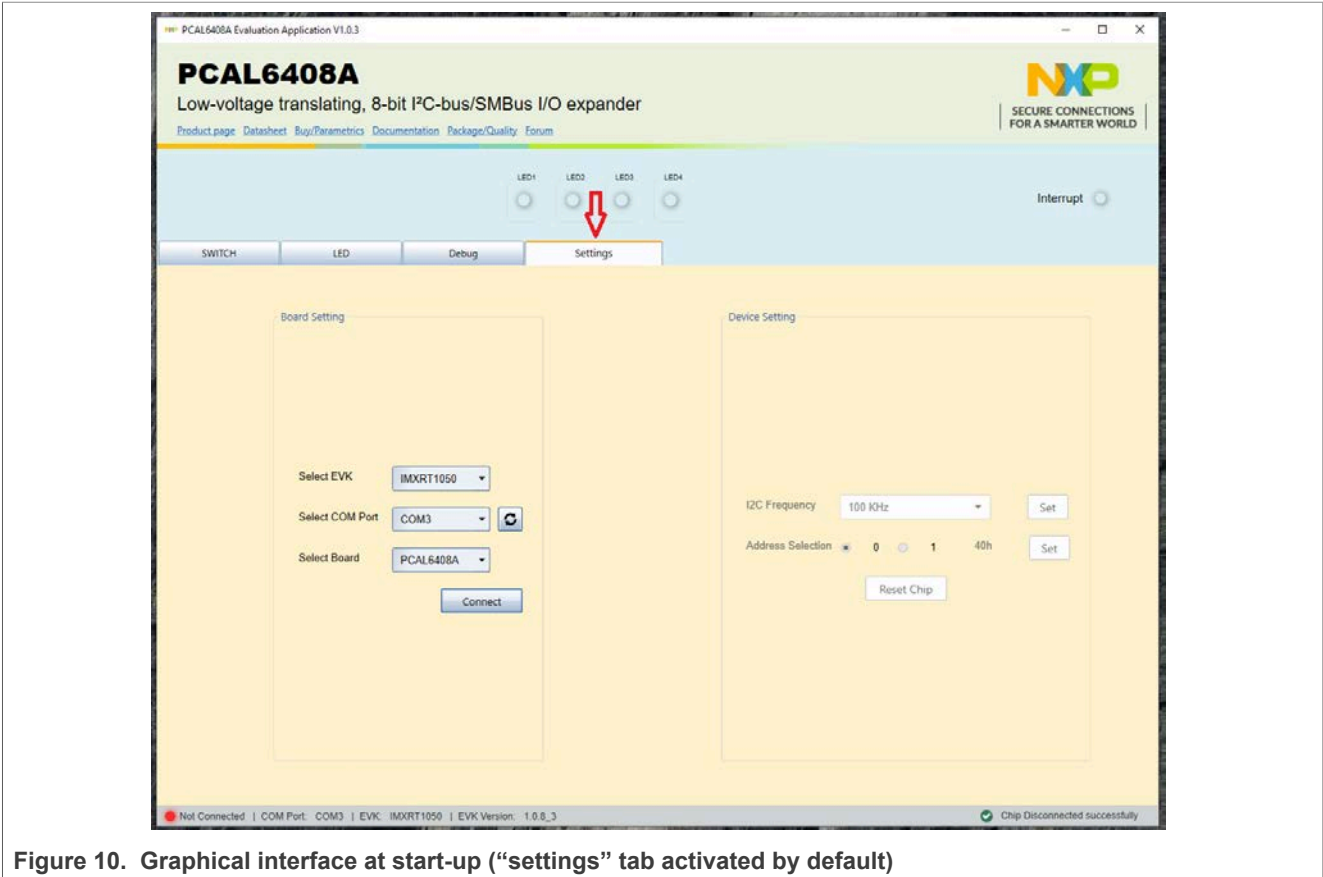

Figure 10. Graphical interface at start-up (“settings” tab activated by default)
Once installation is complete, assure that one of the mentioned three EVK with attached PCAL6408A-ARD daughter board is connected to PC and powered-on. Open NXP\_(PCAL65x4,PCAL64xxA) GUI application. An interface will appear as is shown in Figure 10:
- **Select Board:** allows the user to select the correct daughter board (the application can support four different boards). In Figure 10, the selected board is PCAL6408A. Selecting a wrong daughter board causes the connection to fail and a pop-up window with the message: *“Unable to Connect with Daughter Card”* appears on the screen.